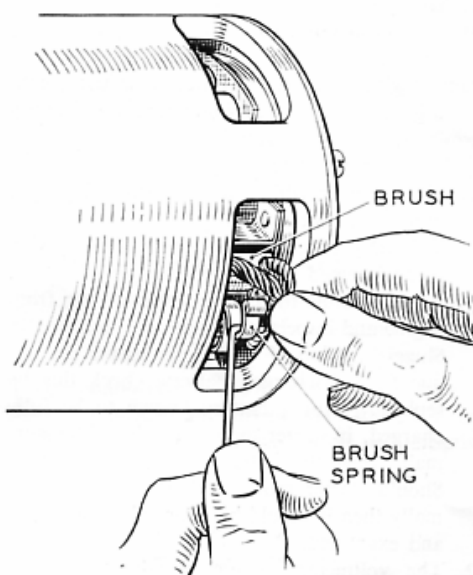

Fig. S.4.
1. Check that brushes move freely in their holders by holding back brush springs and pulling gently on the flexible connectors (Refer to Fig. S.4). If movement is sluggish, remove brush from its holder and clean its sides with a fluffless petrol moistened cloth. Replace brush in its original position. Brushes which are worn to less than $\frac{9}{16}$ in (14 mm) long must be renewed.